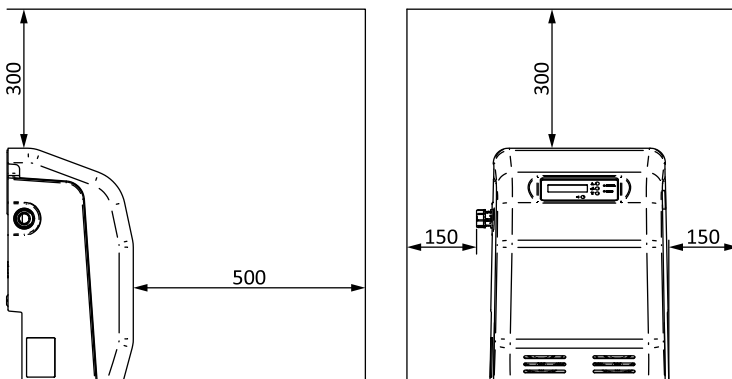

Fig. 2
- 4.12 **Access and minimum clearance requirements:** For emergencies and maintenance the SPU Midi must be easily accessible and have the minimum clearance around it as laid out in Fig. 2. Additional access to the front of the unit will be required to operate the keypad and view the display.